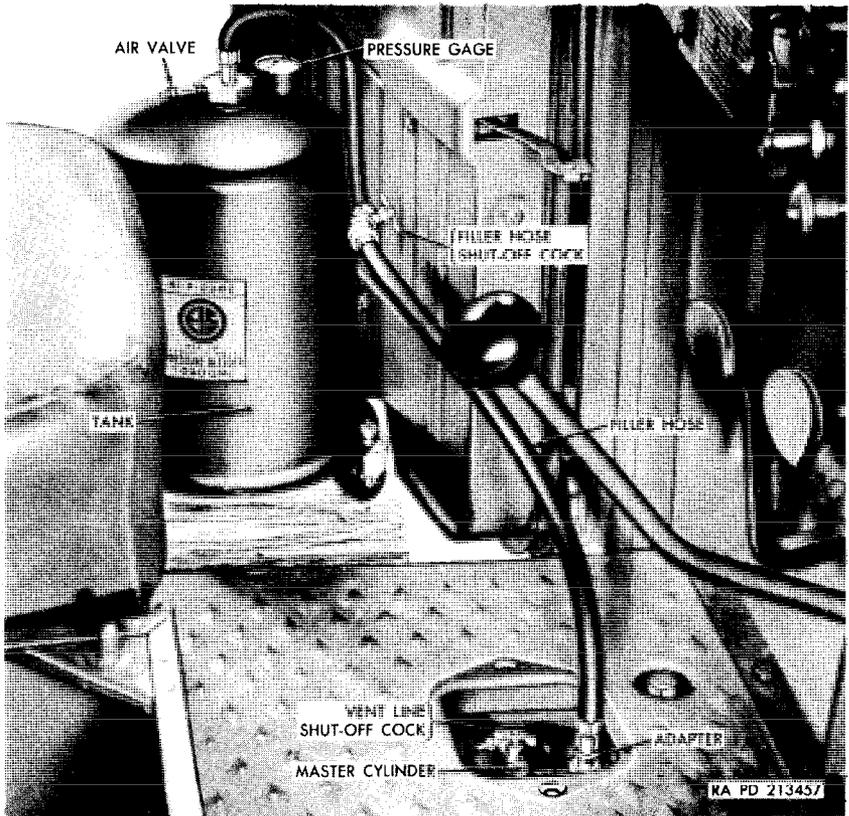

Figure 182. Pressure filler connected to master cylinder.
- (1) Turn the master cylinder access cover studs 90 degrees counterclockwise and remove the cover from the floor panel in the driver's compartment (fig. 182).
- (2) Clean the top of the master cylinder and remove the master cylinder filler plug.
- (3) Fill the master cylinder with brake fluid until the fluid level is three-fourths of an inch below the top of the filler plug opening.
- (4) Install the filler plug.
- (5) Install the master cylinder access cover and turn the cover studs 90° clockwise.
b. Bleed Brake System, Using Pressure Filler (fig. 182).
- (1) Remove the master cylinder access cover (par. 215*b*(1)). Close the master cylinder vent line shutoff cock. Clean top of master cylinder and remove the filler plug.